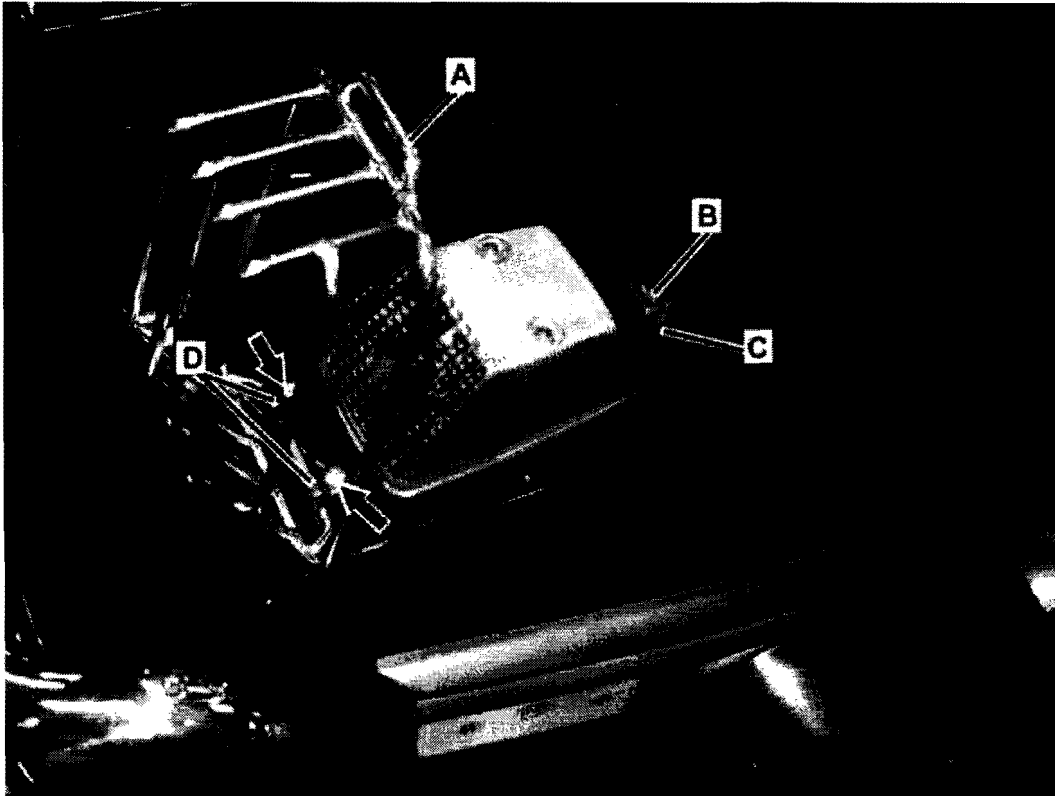

Figure 1
1. Open directional grill (A, Figure 1).
2. Remove torx screw (B, Figure 1) from clip (C) and remove clip.
3. Close direction grill (A, Figure 1) then remove two torx screw (arrows).
4. Remove clips (D, Figure 1) and remove grill (A).